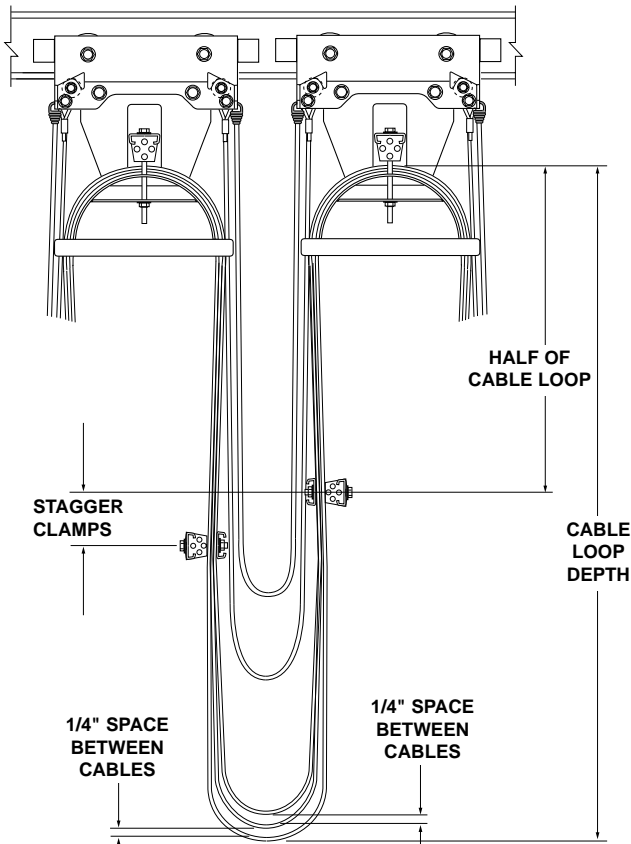

FIGURE 20—CABLE LOOP ADJUSTMENT
2. Without shifting the lowest layer of cable, shorten each successive layer of cables upward in the loop to create a space of approximately 1/4". See Figure 20.
- B. Stagger clamps as shown in Figure 20 to prevent them from colliding with each other during system operation.